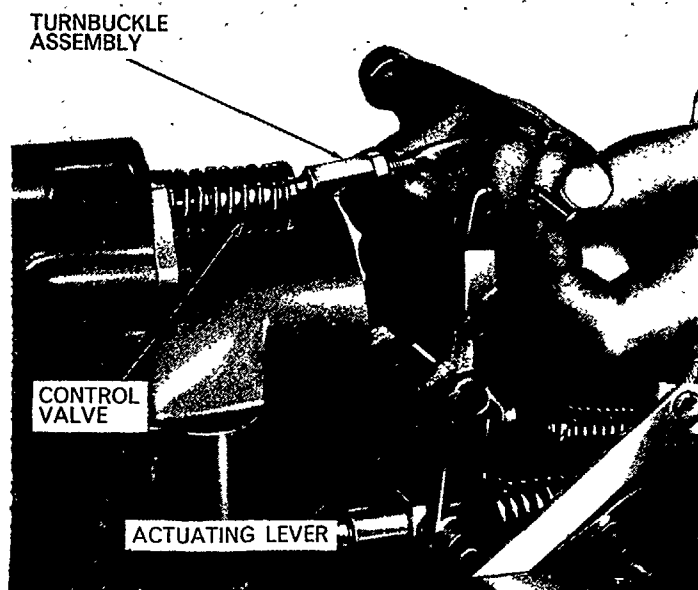

Figure 19
3. Remove the cotter pin and clevis pin that secure the control valve turnbuckle clevis to the actuating lever and withdraw the turnbuckle assembly from the control valve, Figure 19.